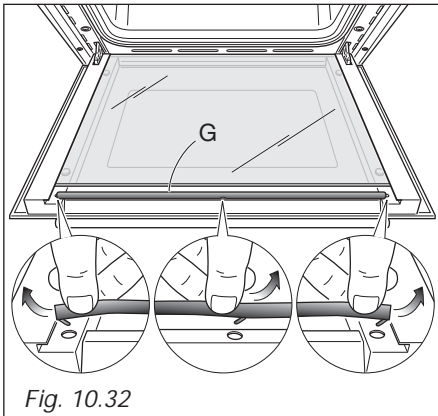

Fig. 10.32
- Remove the seal **G** by unhooking the no. 3 fixing hooks (fig. 10.32).